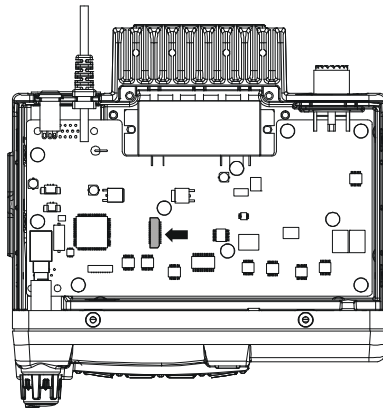

Figure 2
3. Referring to Figure 2 & Figure 3, locate the empty connector for the Optional Unit, connect the Optional Unit here.